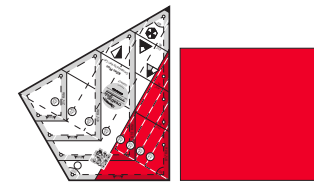

Fig. 6
2. Rotate the ruler so that the 90° corner is at the bottom edge of the fabric strip. Place the side of the ruler next to the point of the triangle just cut. Then, cut the right side to create a second triangle. Repeat the above steps to continue cutting ST. Fig. 6